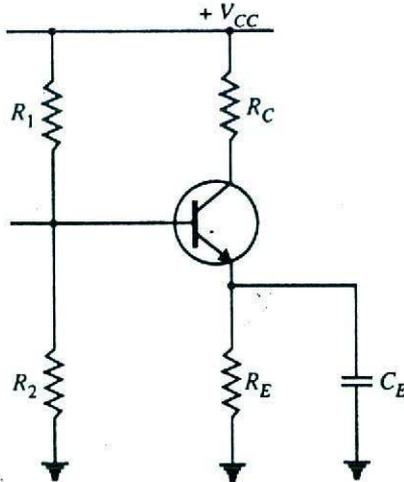

Fig. 11.22
**Example 11.19.** Fig. 11.22 shows the potential divider method of biasing. What will happen if